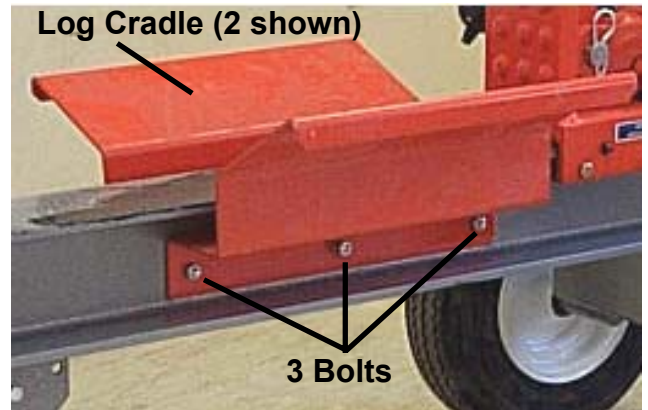

Figure 5
1. Mount the Log Cradle on the operators side of the wood splitter (*Figure 5*) and the Log Cradle retaining panel on the opposite side of the H-beam using the three 3/8" bolts and nuts. Tighten the bolts using the 9/16" socket.
1. If the optional Log Cradle is employed, remove the three bolts that hold it on (*Figure 5*).